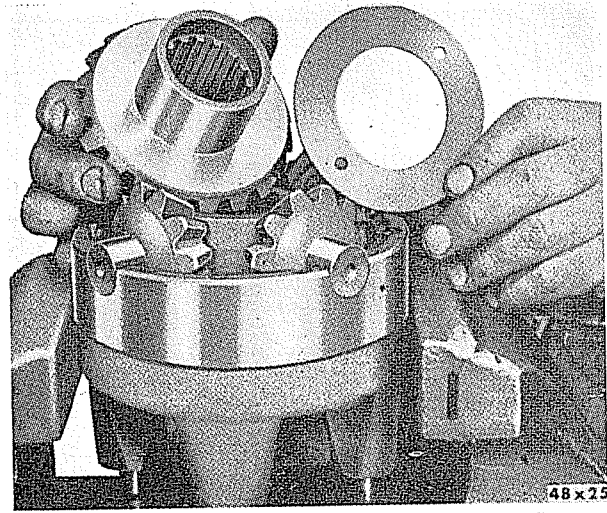
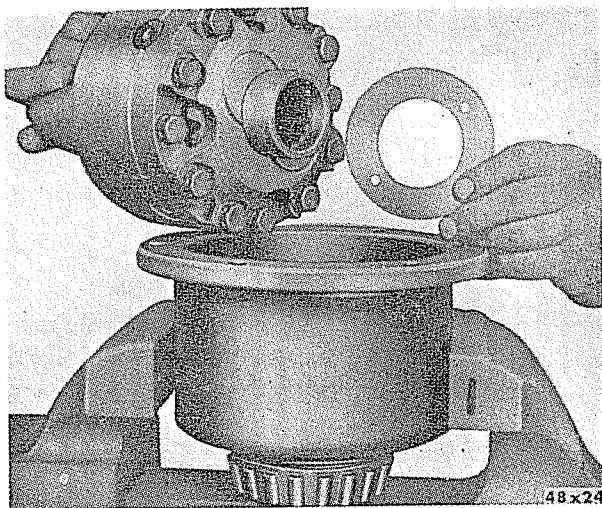

Fig. 47—Removing Thrust Washer and Side Gear.
Fig. 46—Removing Differential and Thrust Washer.
- (19) Lift out entire differential assembly and support case thrust washer (Figure 46).
- (20) Remove differential case bolts, after removing lock wire and separate differential case halves.
- (21) Remove thrust washer from long hub of differential side gear (Figure 47).
- (22) Pull out spider and differential side pinions, noting thrust washers behind pinions. Remove short hub side gear and remove thrust washer.